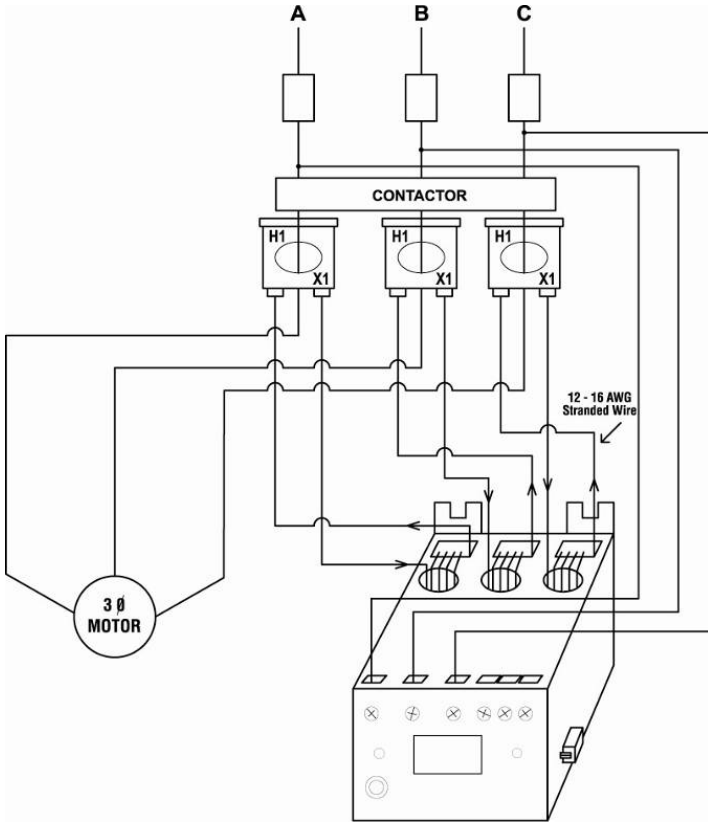

Figure 3: Typical Wiring Using External CTs²
- c) For amperages greater than 40 amps, external CTs (current transformers) are required. SymCom recommends using CTs with terminal connections for easier installation. All CT secondaries must make five passes through the round holes on the PumpSaver®Plus. See Figure 3 for a typical wiring diagram using external CTs.